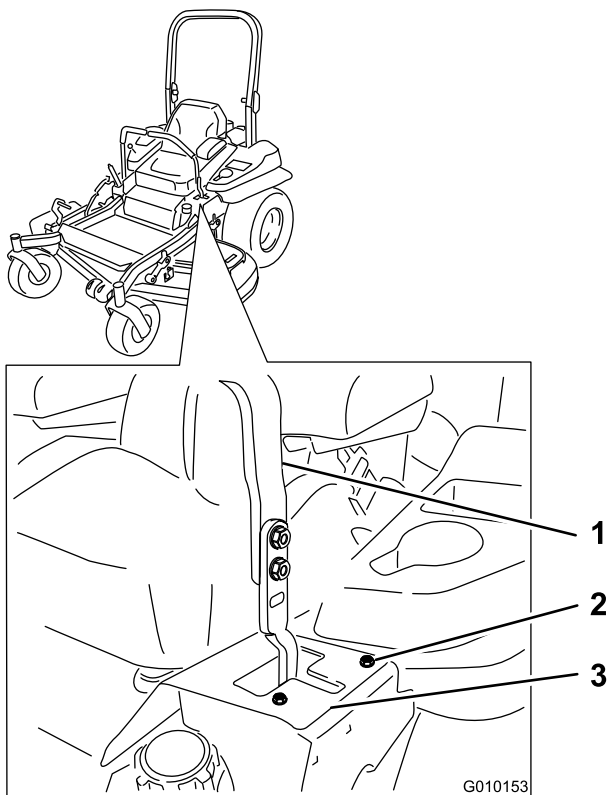

Figure 50
6. If it tracks to the right, loosen the bolts and adjust the left stop plate rearward on the left T-slot until the machine tracks straight (Figure 50).
7. If it tracks to the left, loosen the bolts and adjust the right stop plate rearward on the right T-slot until the machine tracks straight (Figure 50).
8. Tighten the stop plate (Figure 50).